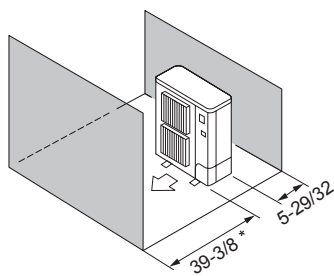

Fig. 2-9
⑤ Obstacles at front and rear (Fig. 2-9)